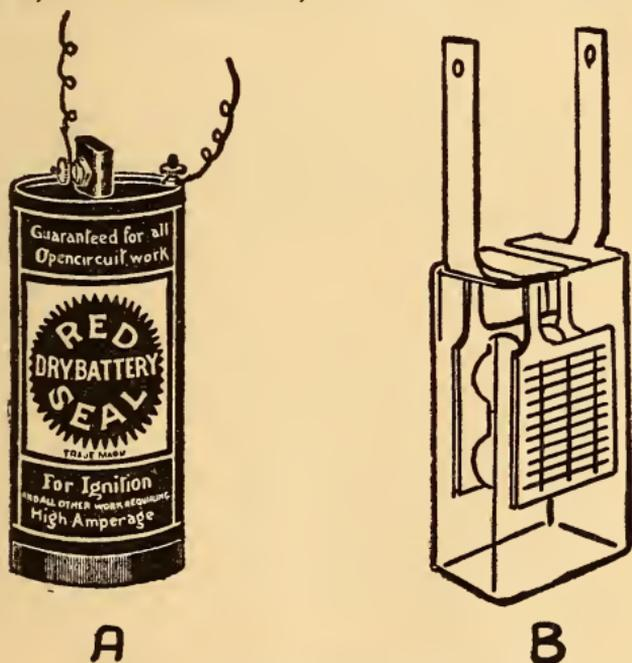

FIG. 66. KINDS OF BATTERY CELLS
tive element (—) is nearly always zinc (Zn). Now when these elements are set into an acid, or an alkali, solution such as *dilute sulphuric acid* ( $\text{H}_2\text{SO}_4$ ) or *ammonium chloride* ( $\text{NH}_4\text{Cl}$ ), that is sal ammoniac, or other electrolyte, and a wire connects the elements together a current of electricity will be set up and flow through the circuit thus formed. A dry cell is shown at A in Fig. 66.
**Storage Battery Cells.**—In a storage battery cell both the positive and negative elements are made of sheet lead. These *lead grids*, as they are called, are punched full of holes and those in one grid are filled with *lead dioxide* ( $\text{PbO}_2$ ) and this forms the *positive plate*; the holes in the other grid are filled with pure *finely divided lead* ( $\text{Pb}$ ) and this forms the *negative plate*; finally these elements are put into an electrolyte of dilute *sulphuric acid* ( $\text{H}_2\text{SO}_4$ ). A storage battery cell is pictured at B in Fig. 66.